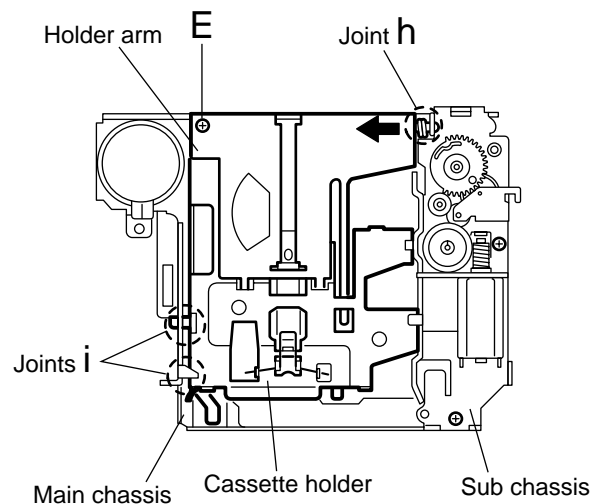

Fig.5
**■ Removing the cassette holder / holder arm (See Fig.5)**